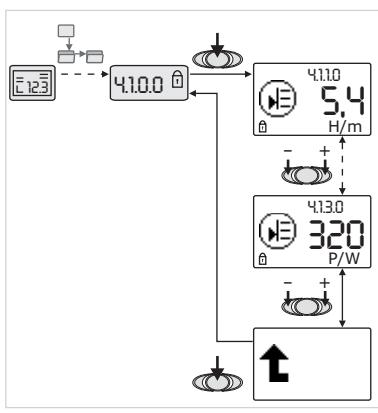

Fig. 35: Calling up information
- By pressing a tuning button, go to the menu elements of the “Information” type of the current submenu (see Fig. 35). For an explanation of the settings represented by the symbols, see the table in Section 8.7 “Menu elements reference” on page 67.